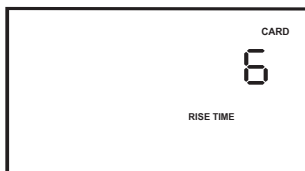

Figure 6–9 Rise Time Setting Screen
1. From either the Monitoring or Standby screens, press the Right User button until you reach this screen. The Rise Time Setting screen is shown in Figure 6–9.